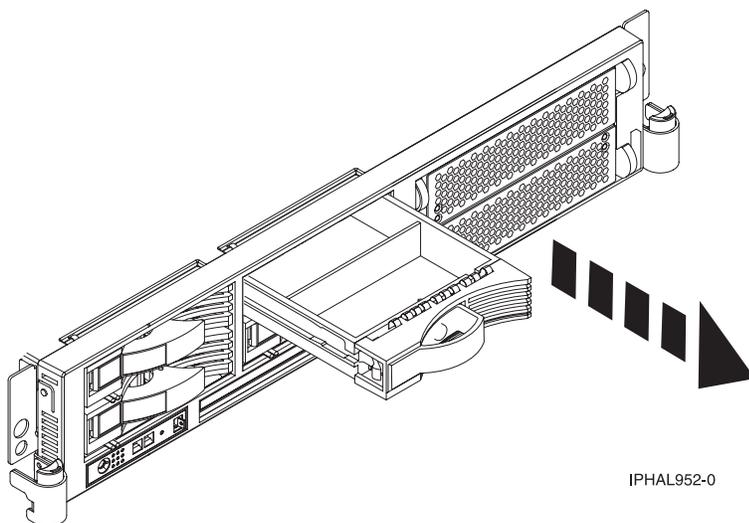
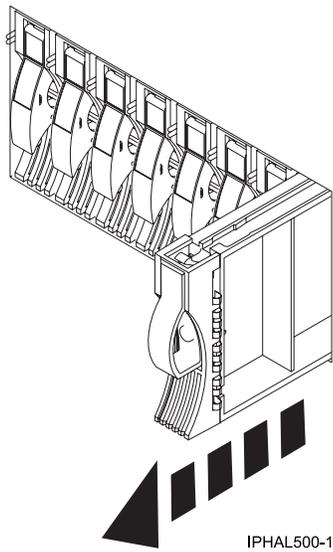

Figure 38. Removing a disk-drive filler from model 51x and 710
Figure 39. Removing a disk-drive filler from model 285, 52x, 55x, 9116-561, 570, 720, or 7311-D20
- a. Pull the disk-drive filler from the slot as shown in Figure 38 or Figure 39 on page 40.